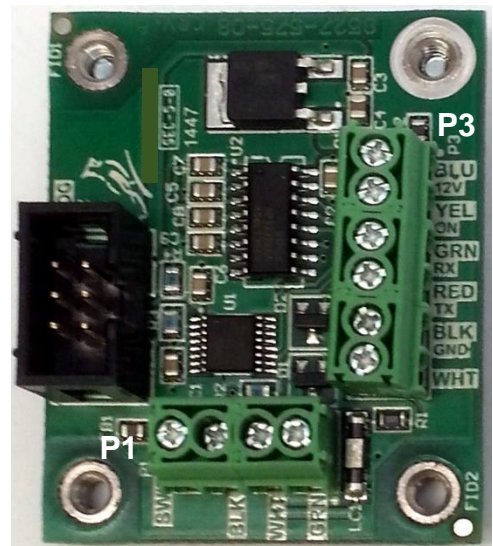

Figure No. 1
2. The switch controller cable wires are to be connected to the (P3) terminal block on the APSPB. Refer to Figure No. 1 for an illustration on the connector layout.
4. The push button cable wires are to be connected to the SWITCH (P1) terminal block on the APSPB. Refer to Figure No. 1 for an illustration on the connector layout.